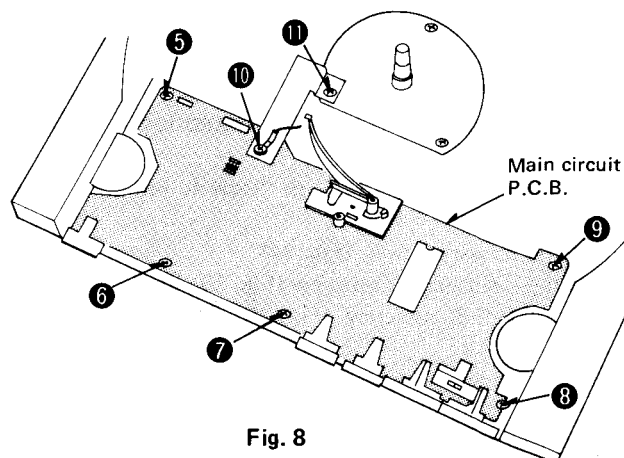

Fig. 8
2. Remove the 5 setscrews (Fig. 8: ⑤ ~ ⑨) of P.C.B. and 2 setscrews (Fig. 8: ⑩, ⑪) of radiator panel.